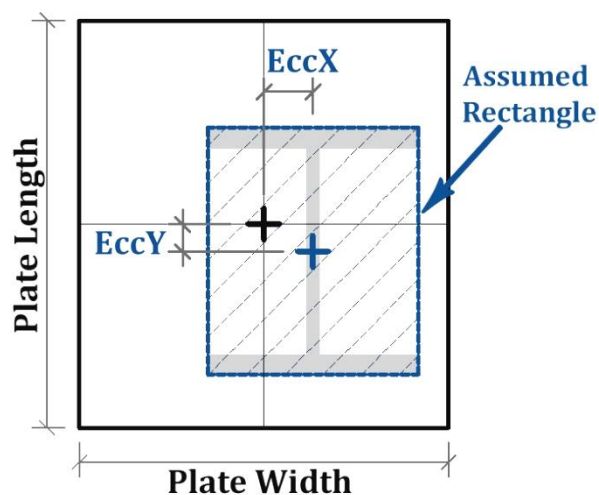

Figure 3-23, Column eccentricity definition
- **Column Eccentricity:** User can determine the position of column on the base plate without any restriction. Setting the position of column at the Center, Top Edge, Right Edge, Bottom Edge and Left Edge of the base plate is performed. In the Custom Eccentricity mode, one can enter desired value of eccentricity in both X and Y directions. These values of eccentricities correspond to the distance between the center of base plate and the center of a rectangle which surrounding the column (Figure 3-23)